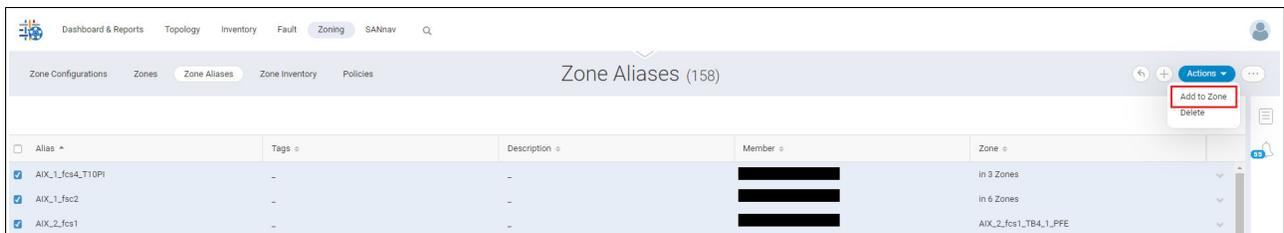

Figure 5-33 Bulk Select alias add to zone
4. To add a single zone alias to the zone, click the drop-down arrow next to a zone alias, and then select the **Add to Zone** option, as shown in Figure 5-33.